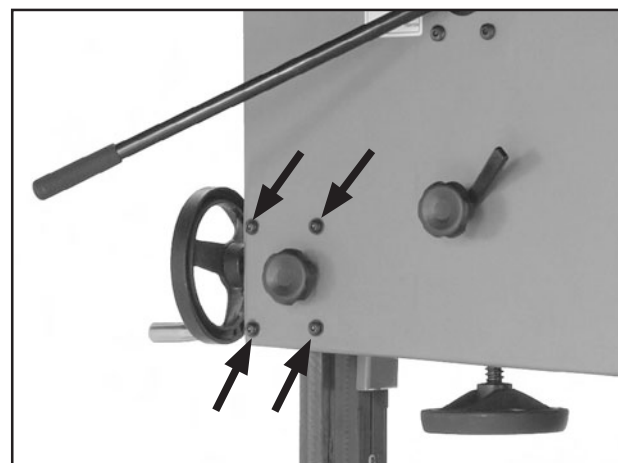
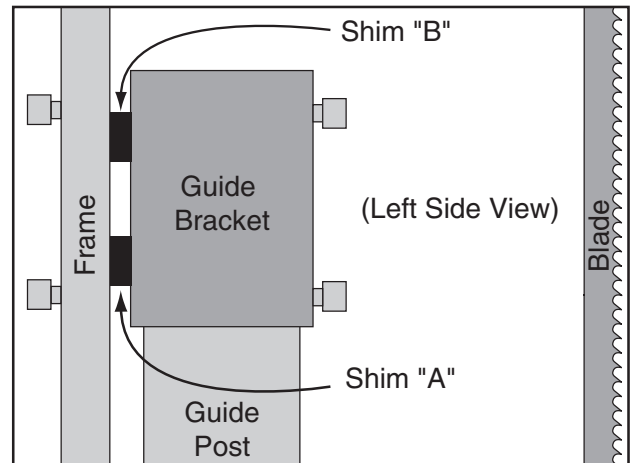

Figure 92. Guide post adjustment screws.
Figure 94. Location for placing shims.
7. Loosen each of the four screws shown in **Figure 92** ¼ turn.
9. Tighten the screws shown in **Figure 92**.
7. Loosen the four screws shown in **Figure 92** enough to fit metal shims between the frame and the guide post bracket (see **Figure 94**).
8. Tighten the four screws shown in **Figure 92**, then repeat **Steps 4–5**.